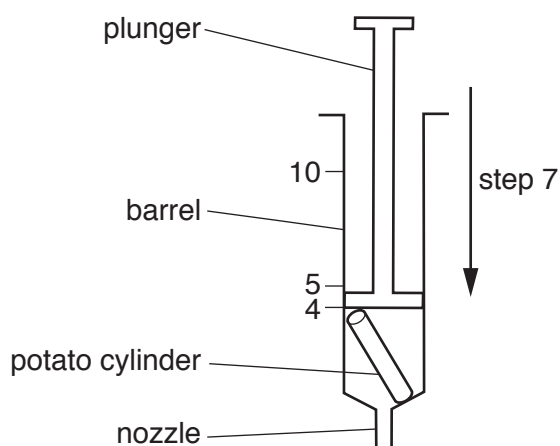

Fig. 1.5
7. Replace the plunger and push it to the 4 cm³ mark, as shown in Fig. 1.5.